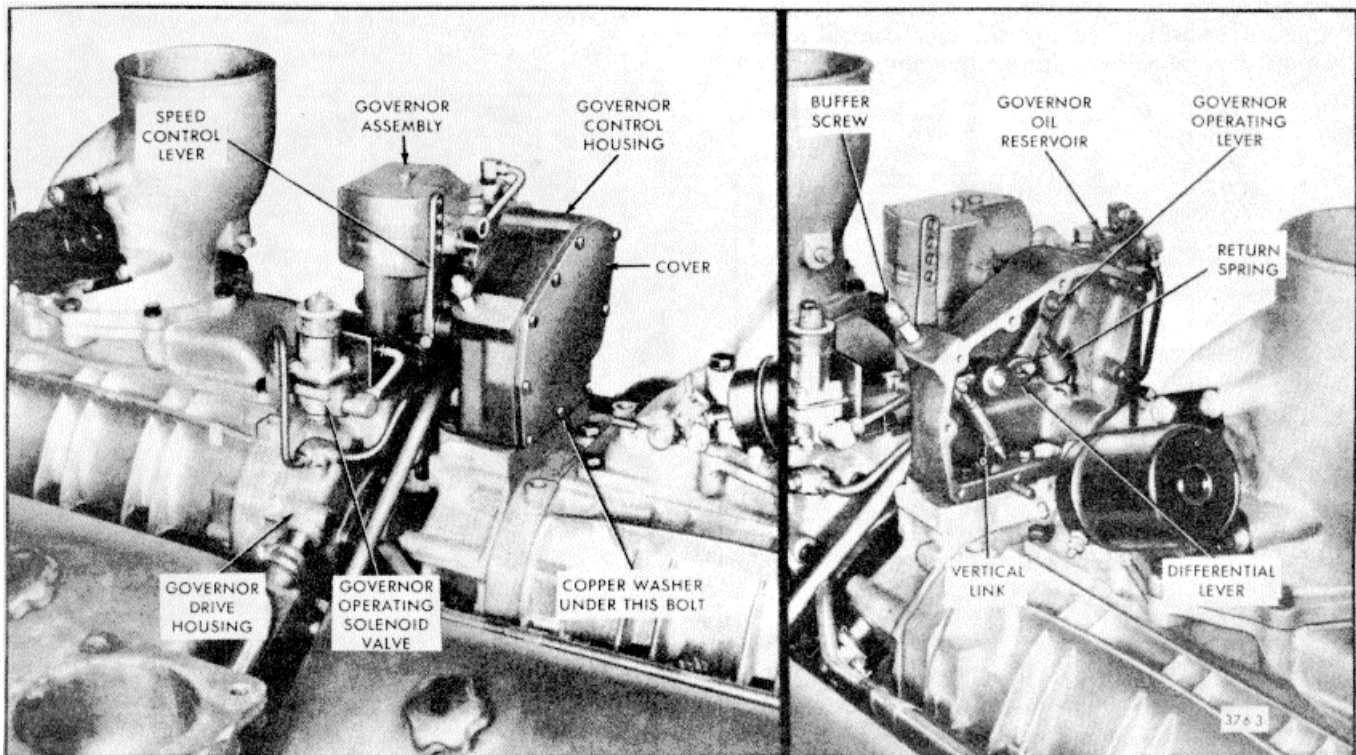
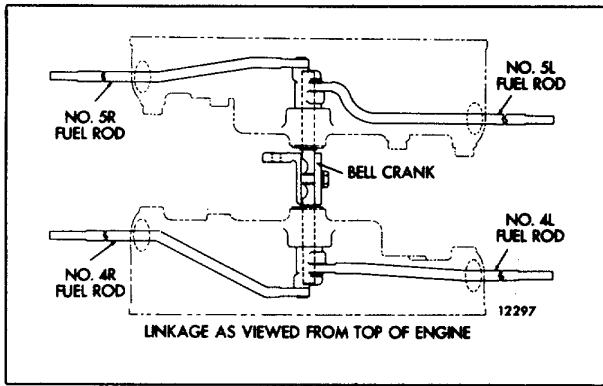

Fig. 1. - Governor Mounting and Linkage in the Control Housing
Fig. 2. - Governor-to-Injector Rack Control Linkage
The governor on the 16V engine is mounted on and driven from the front end of the rear blower (Fig. 1). The governor to injector rack control linkage is shown in Fig. 2.
3. Disconnect the upper end of the adjustable vertical link (Fig. 1) from the differential lever pin.